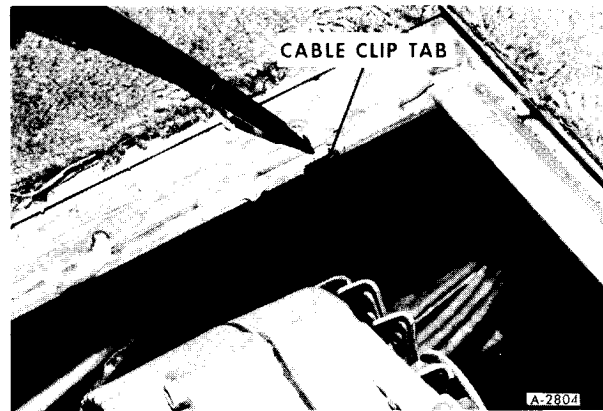

Figure 12
29. Route new accelerator cable into engine compartment and clip as shown in figure 12 and layout.